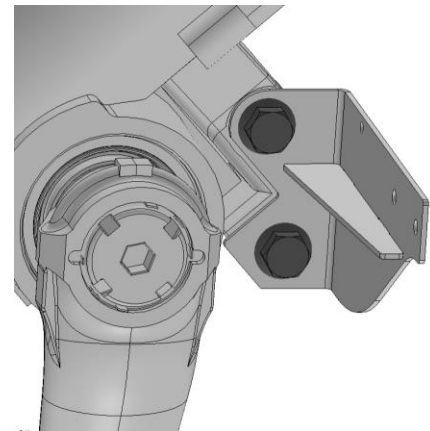

Figure 30. Steering Bracket Mounting.
4. Place Steering Mount on gear box as shown in Figure 30. Reattach bolts to secure Steering Mount to the steering gear box. **Torque to 120-140 ft-lbs.**